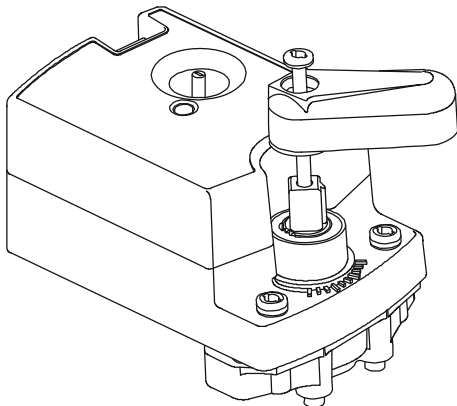

Figure 5: Installing the Handle
2. Place the handle to the top of the drive shaft (Figure 5). The handle is keyed on and can only be mounted in one orientation.
- verify that the valve fully opens and closes, using the gear release button on the actuator and the manual override handle, shown in Figure 5.